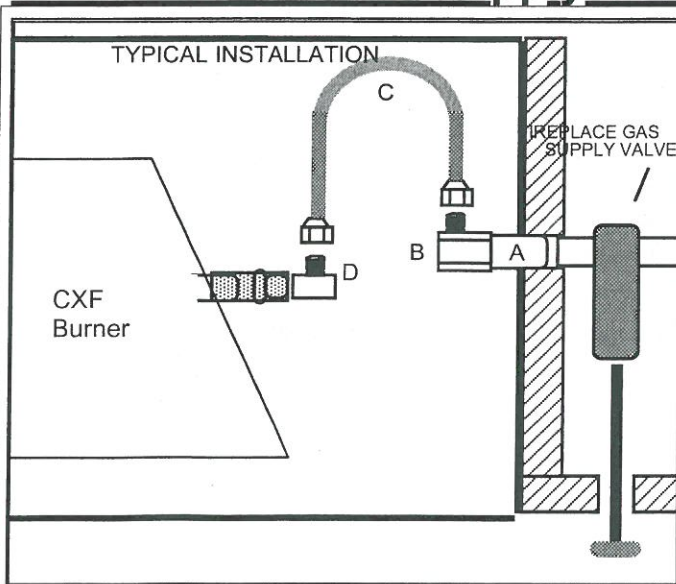

Figure 5
2. With **BURNER PAN** inside firebox, thread (without pipe compound) one end of the **ALUMINUM CONNECTOR TUBE (C)** to the **1/2" FIP x 3/8" FLARE ELBOW (B)** and wrench tighten.
3. Carefully bending **ALUMINUM CONNECTOR TUBE (C)**, align and connect, without pipe compound, to the **FLARED BURNER INPUT FITTING (D)**. Wrench tighten. Figure 5
**NOTE:** If bent into too small of a radius the **ALUMINUM CONNECTOR TUBE (C)** may kink or break, causing a gas leak.